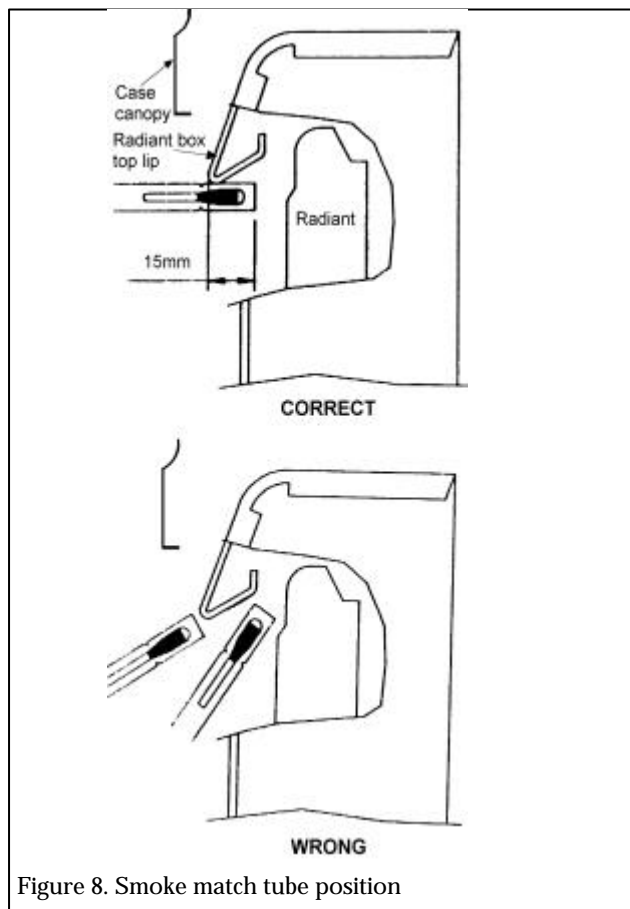

Figure 8. Smoke match tube position
**5.2.4.** Place the smoke match tube horizontally under the top lip of the radiant box and at least 50mm away from the sides of the radiant box. See figure 8.